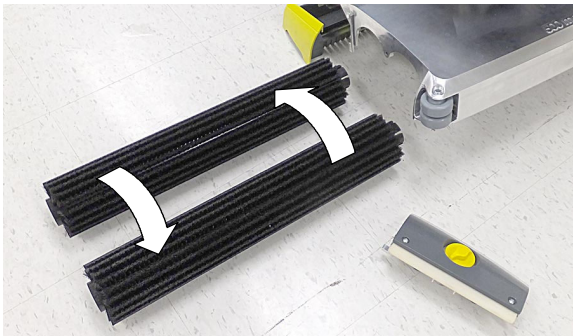

FIG. 103
- 2. Cylindrical brushes - Rotate brushes from front to rear (Figure 103). Replace brushes when they no longer clean effectively.